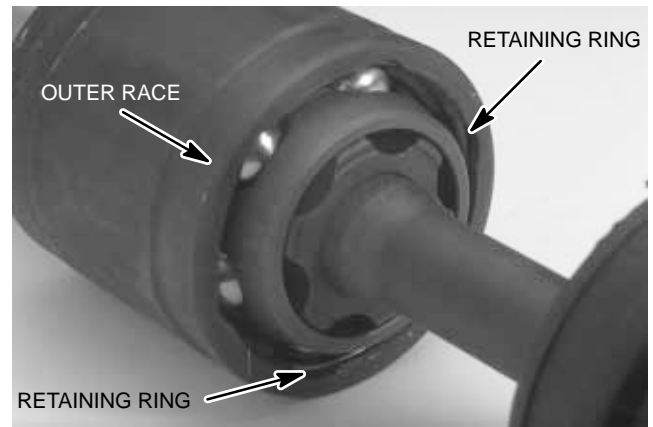

Figure 11
2. Remove retaining ring carefully from the groove inside the outer race (Fig. 11).
5. Grease inside of outer race. **Make sure ball tracks are greased heavily.** Insert cage, ball, and inner race assembly into outer race (Fig. 11).
6. Install retaining ring carefully into the groove inside the joint (Fig. 11).